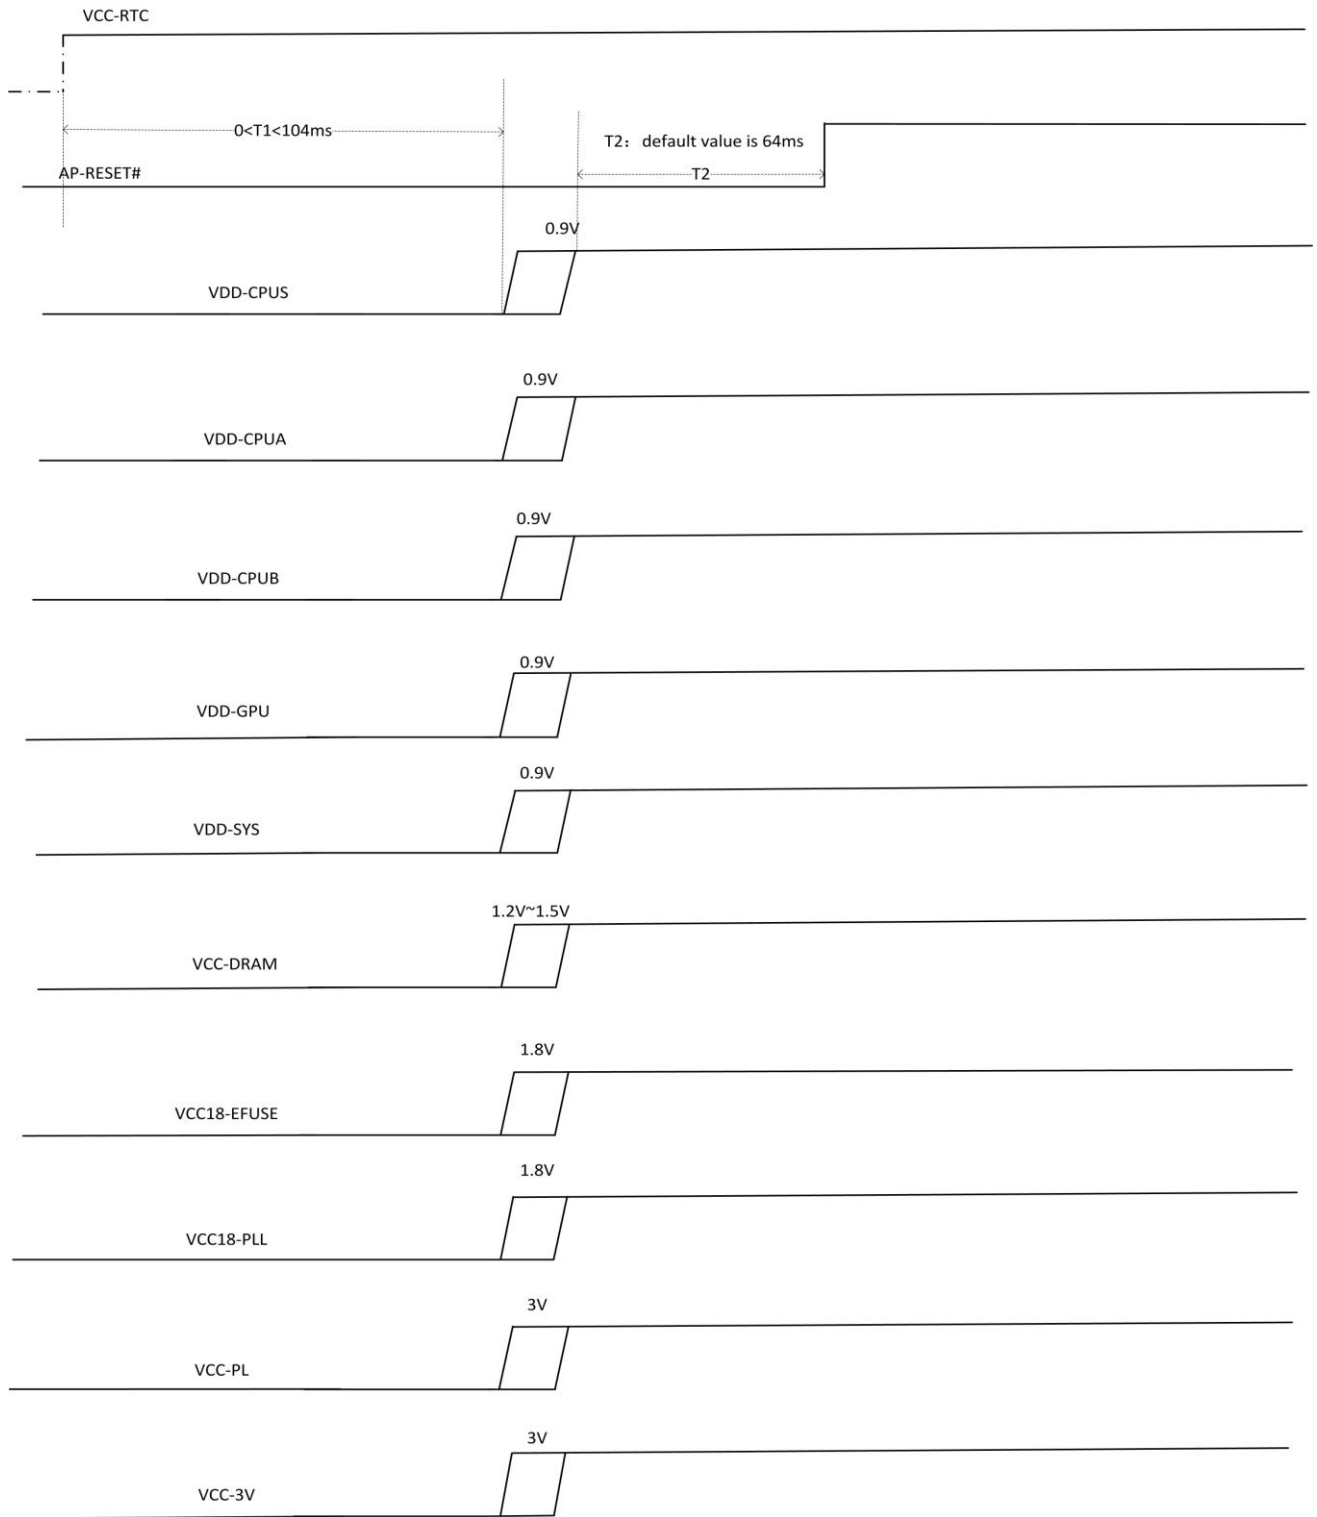
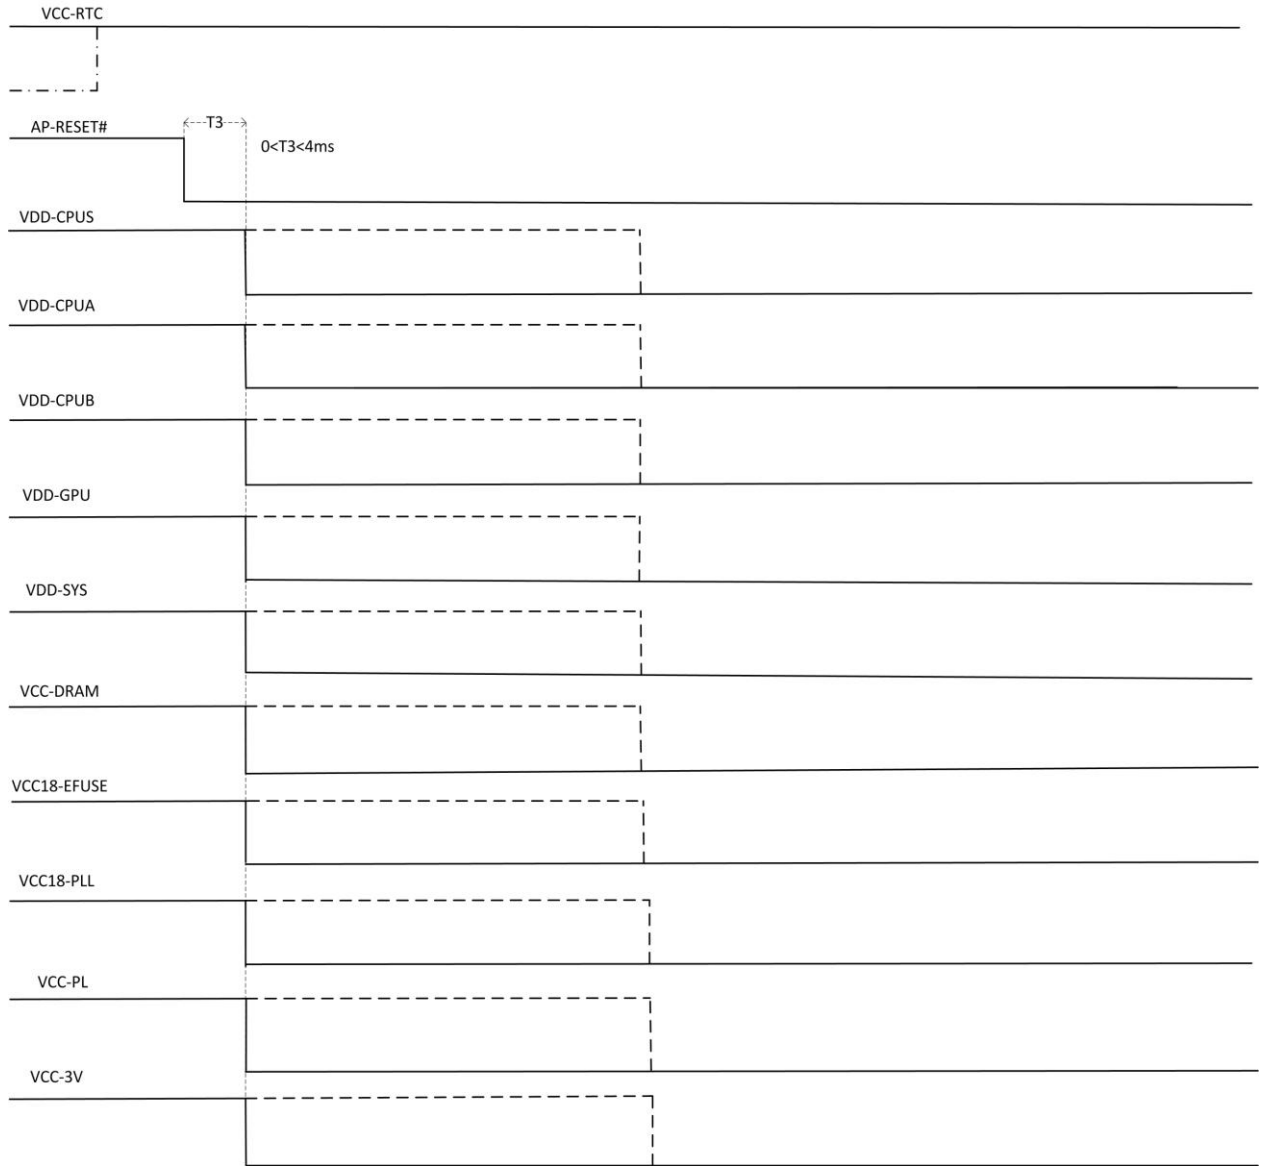

Figure 5-1. Power On Timing
Figure 5-2. Power Down Timing
**Figure 5-1** and **Figure 5-2** illustrate the power on and off sequence: